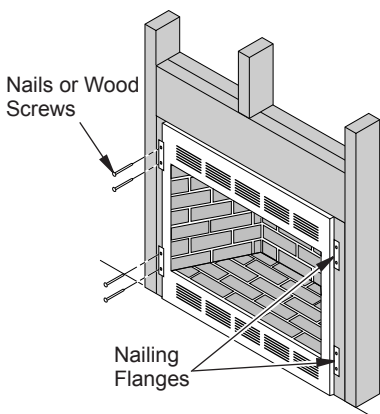

Figure 8 - Attaching Firebox to Wall Studs
- Attach firebox to wall studs using nails or wood screws through holes in nailing flange (see Figure 8).